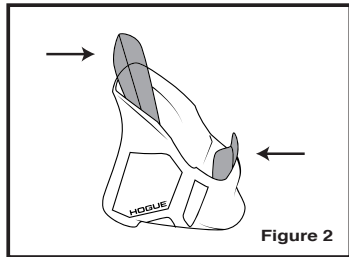

Figure 2
6. Insert the plastic strips into the grip, against the back and front (Fig 2.).